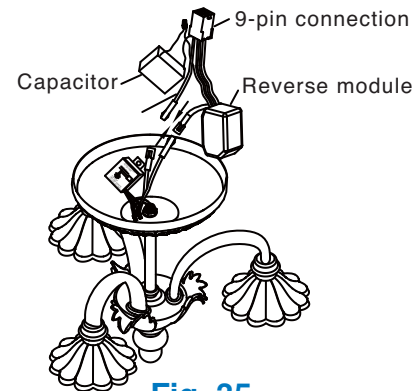

Fig. 35
Step 2. Connect the Black wire from the Light Fixture to the blue wire from the Wiring Harness by pushing them together. Repeat this procedure for the White wires. Now, remove the paper from the double sided tape on each of the components of the Wiring Harness and attach them to the inside of the Light Fixture Switch Housing. Refer to Fig. 35.